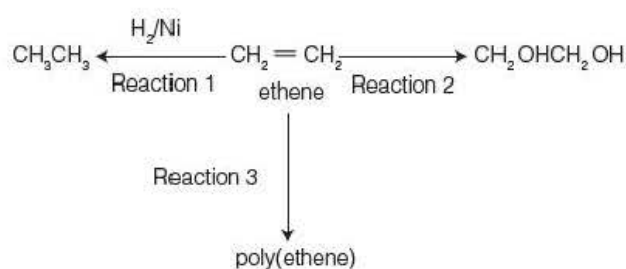

Figure 6.38 ▲
- 1 Figure 6.38 shows three important reactions of ethene.